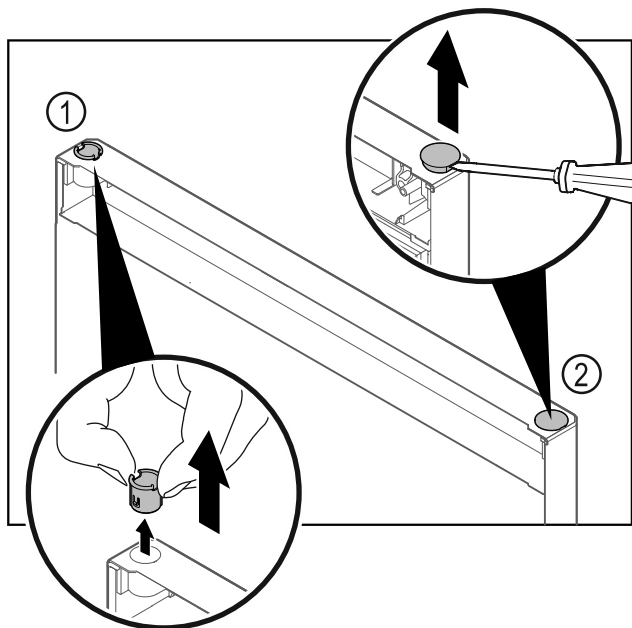

Fig. 22
- ▶ Pull out the hinge bushing Fig. 22 (1) with your fingers.
- ▶ Carefully lift the cover plug Fig. 22 (2) with a slotted screwdriver and pull it out.